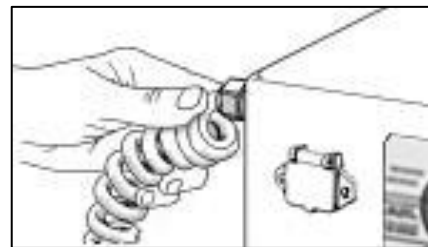

Figure 86
7. Unscrew the cord grip from the back of the box using an adjustable wrench. You will need to hold the locknut inside the box with a screwdriver or pliers. Access the locknut from inside the box (Figure 86).